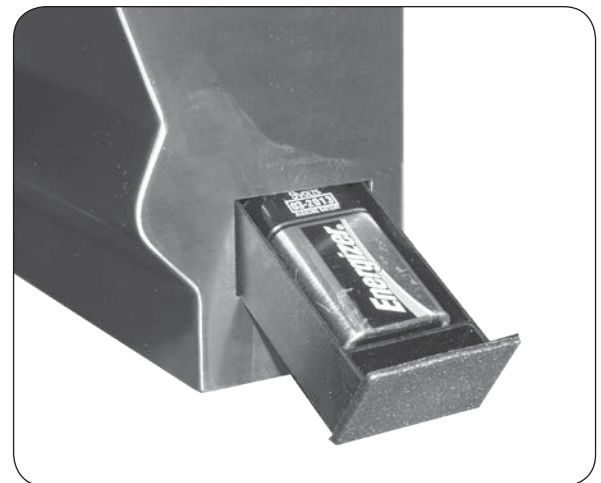

Fig. 30-3 Replace igniter battery
2. Disconnect the battery from the connector and replace it connecting the new battery and close the drawer (see Fig. 30-3).